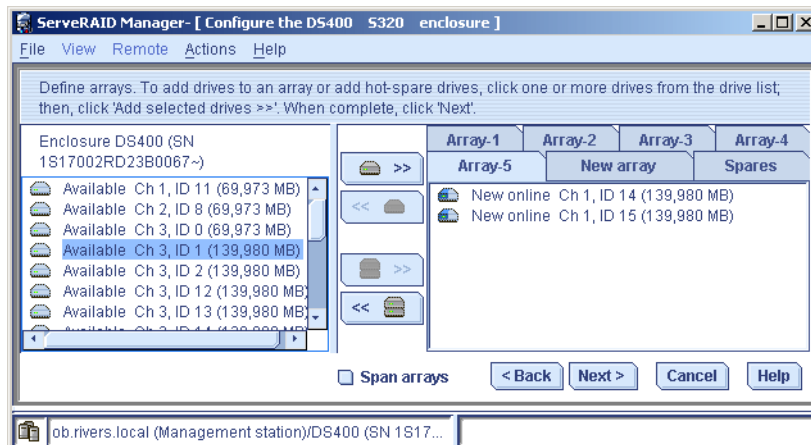

Figure 4-93 Array-5 with two drives
9. Create two more arrays with only two drives in each. Use drives with ID 12 and 13 for the first array and ID 14 and 15 for the second array. Refer to the previous steps on how to add drives. The final results are displayed in Figure 4-93.